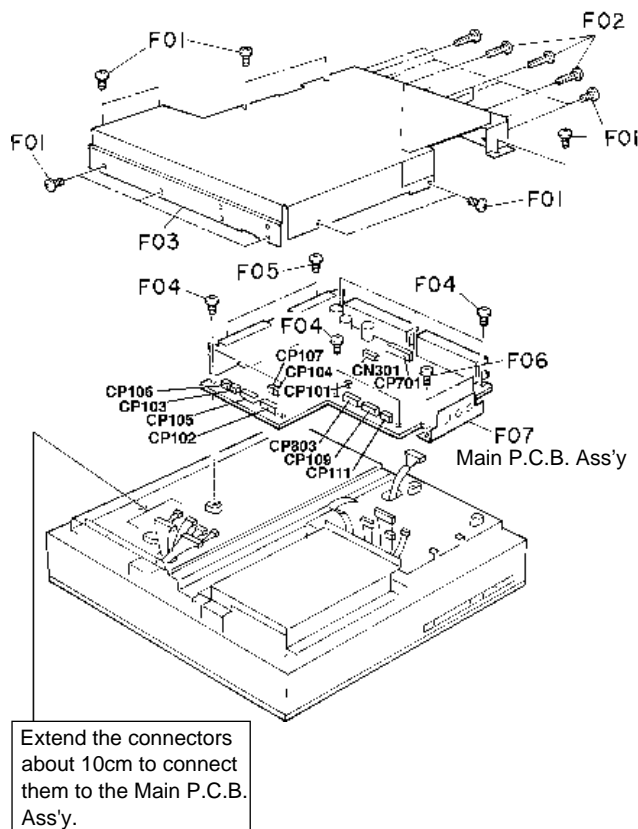
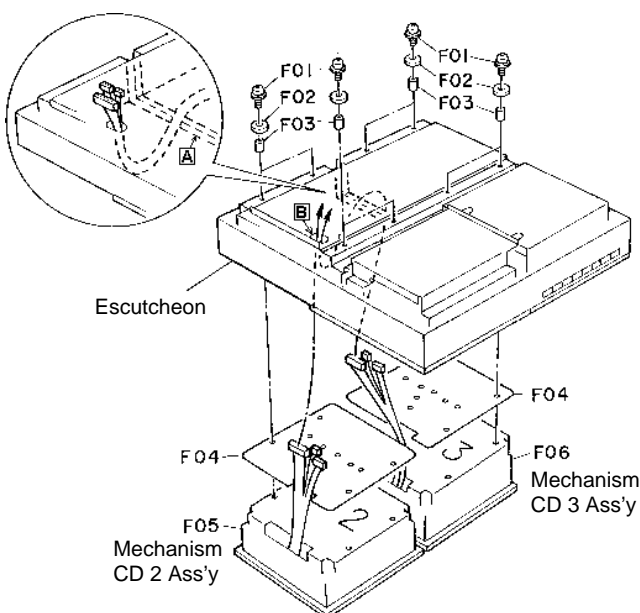

Fig. 1.2
Fig. 1.3
Refer to Fig. 1.2.
Refer to Fig. 1.3.
- Pass the cables of each Mechanism CD Ass'y through the hole "B" as shown in Fig. 1.3. Extend their cables approx. 10 cm from the hole "B" as shown in Fig. 1.2.